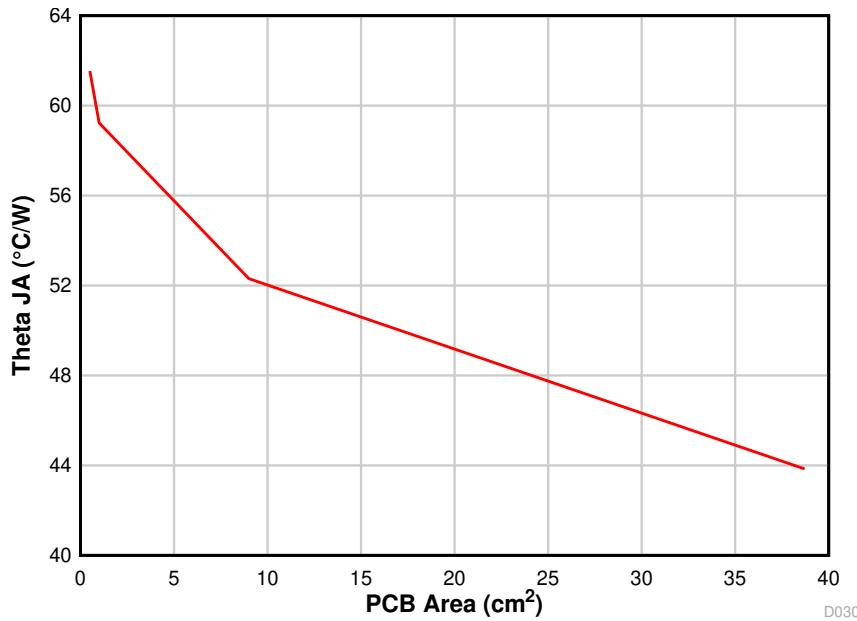

図 10-3.  $\theta_{JA}$  versus PCB Area
The amount of PCB copper affects the thermal performance of the device. 図 10-3 shows the effects of copper area on the junction-to-ambient thermal resistance ( $R_{\theta JA}$ ) of the TPSM265R1. The junction-to-ambient thermal resistance is plotted for a 4-layer PCB with an area from  $0.5 \text{ cm}^2$  to  $39 \text{ cm}^2$ .
3. Reference 図 10-3 to determine the minimum required PCB area for the application conditions.